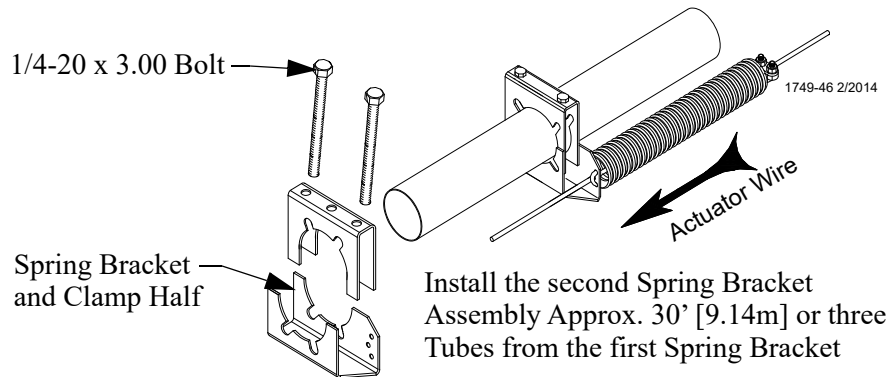
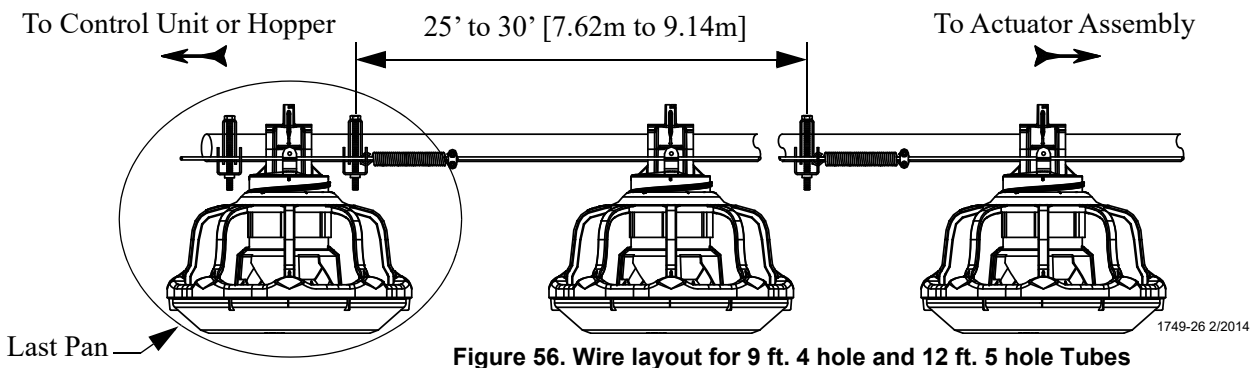

Figure 54. Terminal Spring Bracket
Figure 56. Wire layout for 9 ft. 4 hole and 12 ft. 5 hole Tubes
1. Install the terminal Spring and Bracket (using (2) 1/4-20 x 3 inch hex bolts) at the control unit, see **figure 54 and 57**. If necessary the last pan may need to be setup to push the vari-brood opening, See **Figure 56**.
3. Brackets will be installed using (2) 1/4-20 x 3 inch hex bolts.